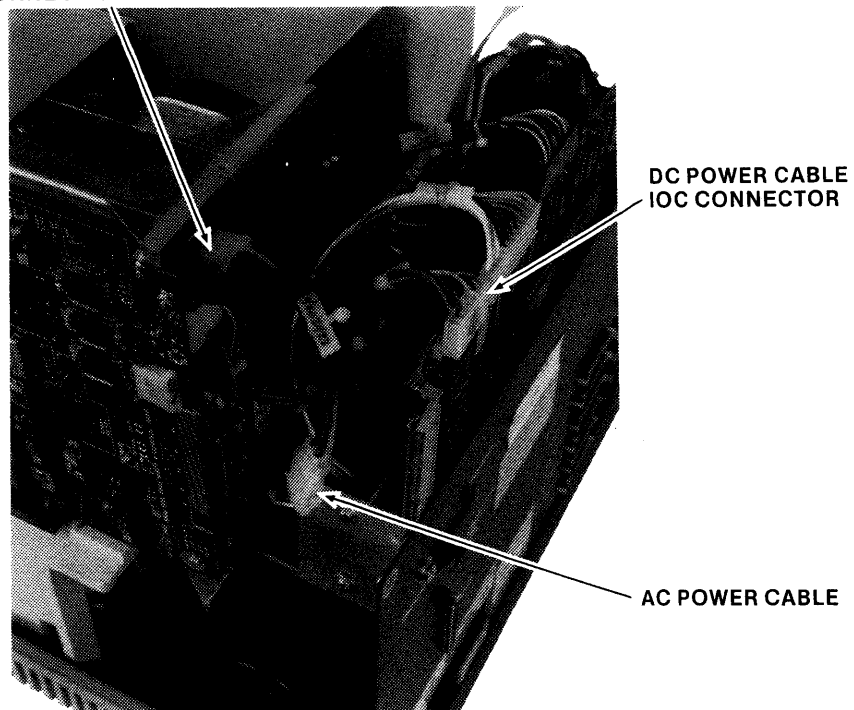

Figure 4-18. Disk Drive Power Cable Installation
12. The disk drive AC power cable is attached to the side of the power supply immediately above the fan. Remove the cable from the tie wrap, and remove the dummy plug in its end. Connect this cable to the disk drive as shown in Figure 4-18.